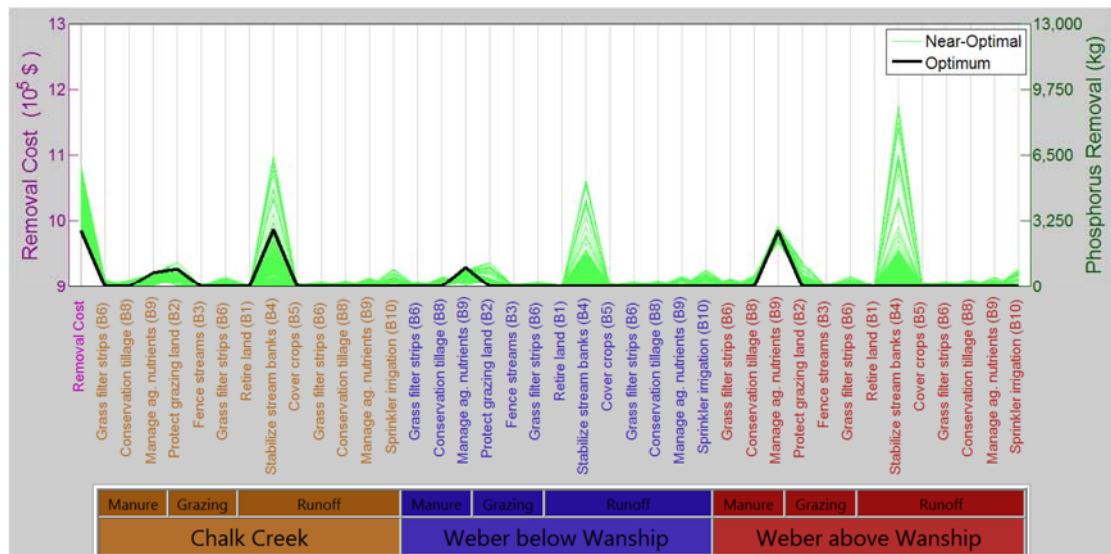
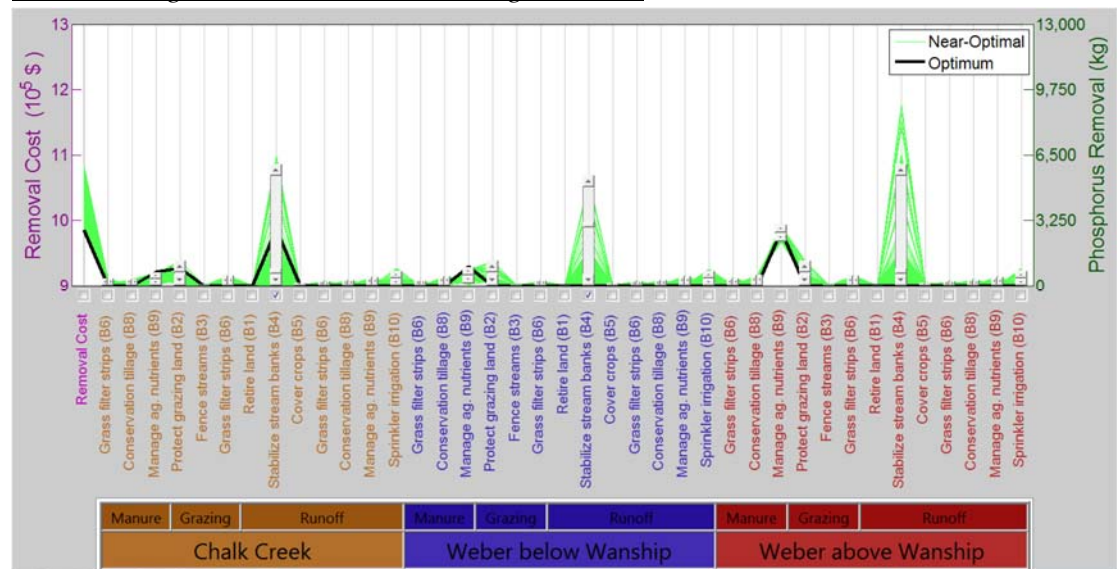

Figure 2. Optimal solution and near-optimal alternatives generated by the stratified sampling for the Echo Reservoir Phosphorus removal problem.
Figure 3. Near-optimal alternatives generated by shifting and increasing stream bank stabilization to the Weber below Wanship sub-watersheds.
- c. This command will read the Echo Reservoir model data from GAMS including the optimal solution, stratify-sample 2,500 near-optimal alternatives whose objective function value is within 110% of the optimal removal cost, and plot the results in Parallel Coordinates. You should see Figure 2 below. (This figure is similar to Figure 3 in the manuscript except it omits purple lines representing alternatives generated by prior Modelling to Generate Alternatives (MGA) method).
- d. If you generated Figure 2, congratulations, you have successfully installed the blended near-optimal tools. If not, please seek help.
- e. Look at Figure 2. List three ways the near-optimal alternatives generated by the stratified sampling method differ from the optimal solution?
- b. Scroll down to Line 96 and begin following actions #2-10 listed as comments in the script (preceded by %). Work from Figure 2 that you generated in Step 5d.
- c. After finishing action #6 in the script (line 102), you should see Figure 3. What sliders change and what do these changes mean?
- a. Using Figure 3 you generated in Step 6, follow the instructions on lines 276-300 in the file Fig_GenForNearOptPaper.m.